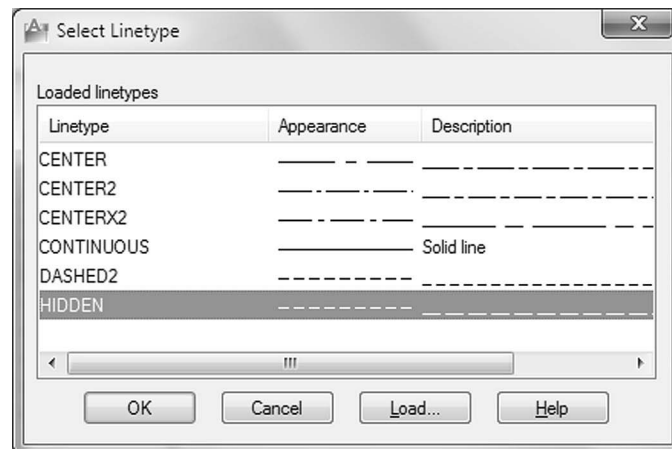

Figure 2.16
*Click: **HIDDEN** as shown in Figure 2.16*
You return to the Layer Properties Manager. Layer EASEMENTS should have the properties set as shown in Figure 2.16.